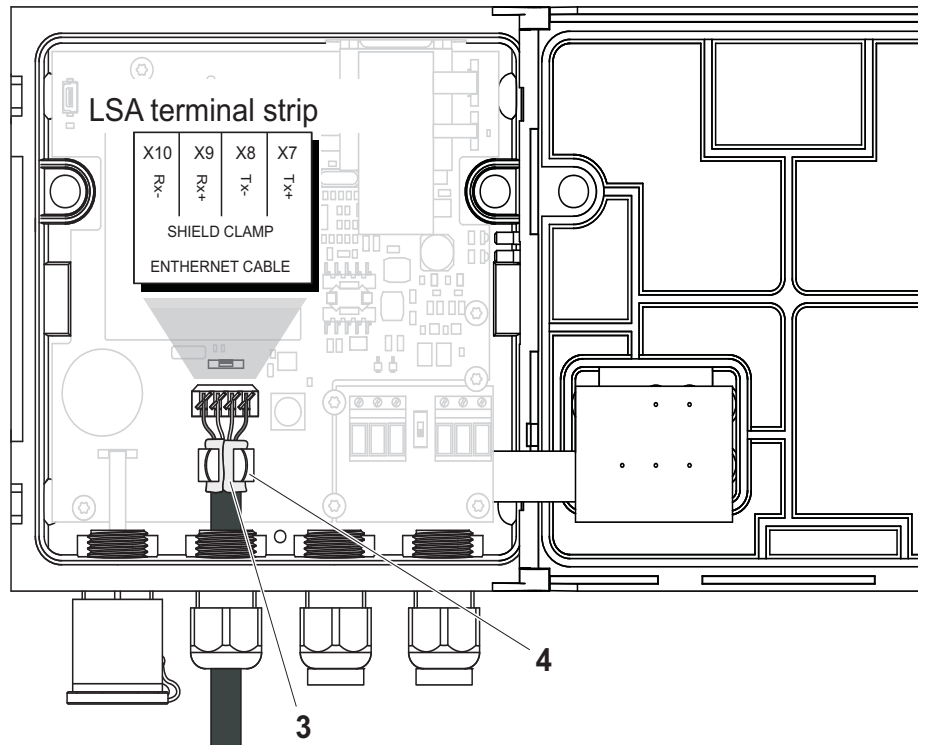

Fig. 2-5 Ethernet connection via terminal strip
6	Carefully slash the cable shield (foil + netting) lengthwise and put it backwards over the cable sheath (pos. 3 in Fig. 2-5).
8	Where the cable shield was put backwards, press the Ethernet cable into the shielding terminal (pos. 4 in Fig. 2-5). The shielding terminal must contact the cable shield across a wide area.